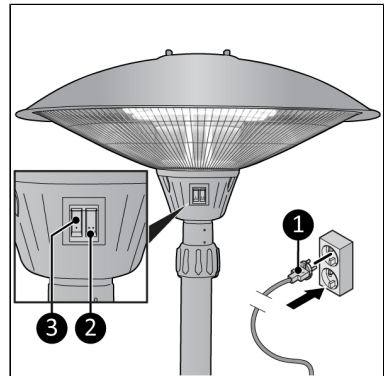

Figure 25.
4. Make sure switch I (Figure 25, pos. 3) and switch II (Figure 25, pos. 2) are both in the OFF position.
5. Place the power plug (Figure 25, pos. 1) in an earthed wall socket that is easily accessible. Use an earthed wall socket with a minimum power of 2100 Watt.
- Low setting: Press switch I (Figure 25, pos. 3);
- Medium setting: Press switch II (Figure 25, pos. 2);
- High setting: Press switch I (Figure 25, pos. 3) and switch II (Figure 25, pos. 2).
1. Make sure the switch I (Figure 25, pos. 3) and the switch II (Figure 25, pos. 2) are in the OFF position.
1. Make sure switch I (Figure 25, pos. 3) and switch II (Figure 25, pos. 2) are in the OFF position.
2. Disconnect the power plug from the power outlet (Figure 25, pos. 1).